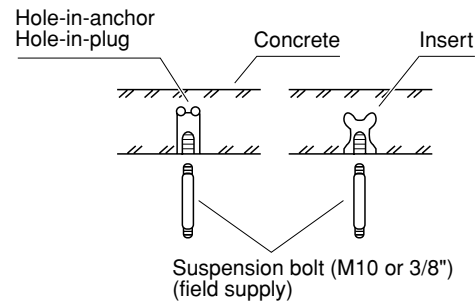

Fig. 3-100
- Insert suspension bolts as shown in Fig. 3-100
- (2) Screw in the suspension bolts allowing them to protrude from the ceiling as shown in Fig. 3-100. (Cut the ceiling material, if necessary.)